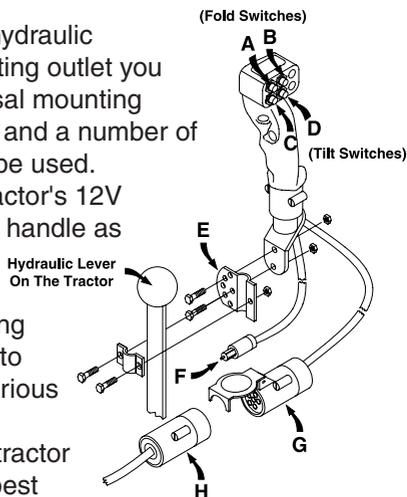

Fig. 4
1. Attach the control handle to the hydraulic lever that operates the double acting outlet you intend to use (Fig. 4). The universal mounting bracket (E)(Fig. 4) is very flexible and a number of different mounting positions can be used.
2. Connect plug (F)(Fig. 4) to the tractor's 12V power system. Try to hook up the handle as close as possible to the battery or the starter for a better power supply. HARDI® recommends using electric distribution box #817925 to insure a good power supply to various 12V attachments.
3. Connect electric plug (H)(Fig. 4) from sprayer hydraulics to plug (G)(Fig. 4) on handle.
- Depress switches (A) & (B) (Fig. 4) and move hydraulic handle forward or rearward to activate oil flow. Switch positions of the hoses in the double acting remote outlet if you do not like the direction required to activate the boom.
1. Activate switches (C) & (D)(Fig. 4) and move hydraulic handle forward or rearward to activate oil flow. Switch positions of the hoses in the double acting outlet if you do not like the direction required to activate the boom.